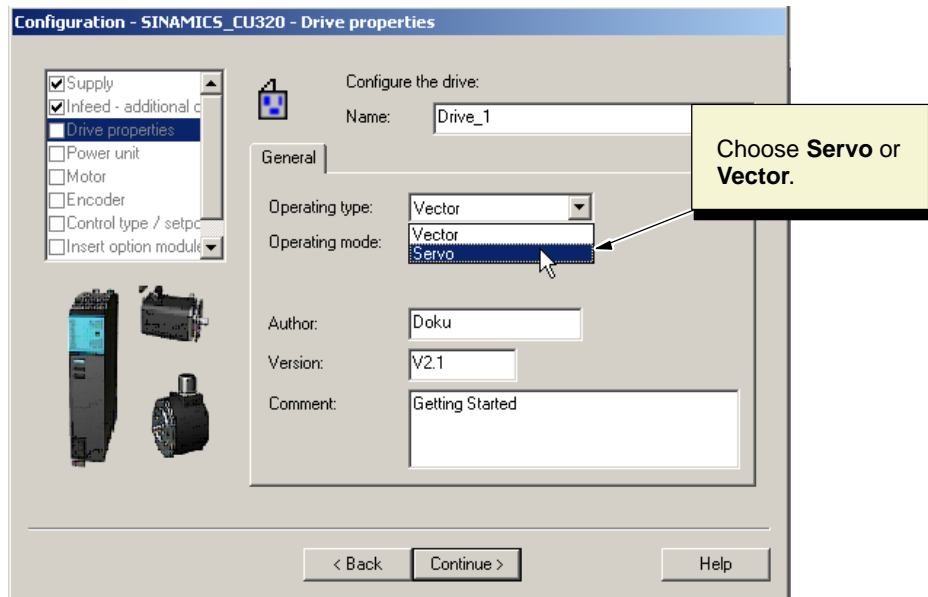

Fig. 3-22 Drive properties
10. The drive properties dialog box (see Fig. 3-22) contains general information about the drive.